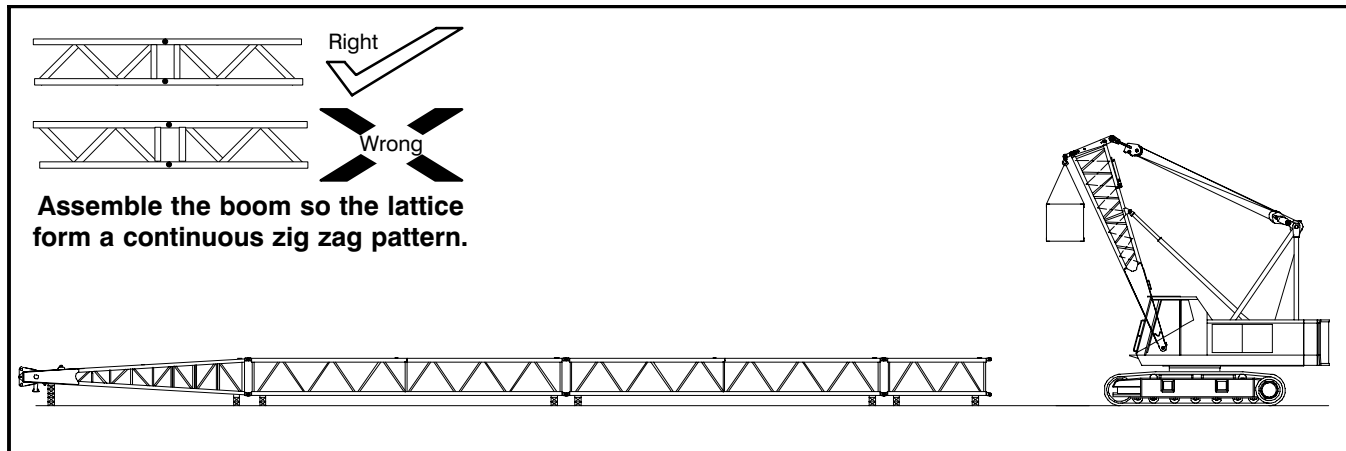

Figure 4-14
8. Using the base section lifting device, layout the top section and boom extensions. (If assembling basic boom, layout the top section only.) Pin sections together on blocking as shown in Figure 4-14. Position the boom sections as shown in the "Boom Make-Up-Chart" in this Section of this Operator's Manual. Ensure that the lattice form a continuous zig zag pattern from one section to another. Improper assembly will cause unequal loads to be carried through the boom, weakening the structure.